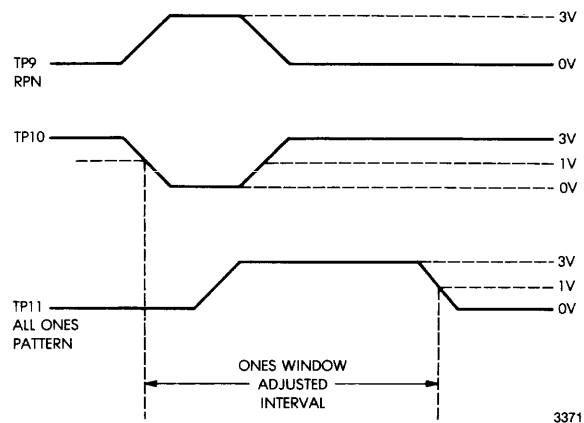

Figure 6-19. Read Pulse Narrow/Ones Window
- (1) Establish test configuration described in Paragraph 6.12.1.1.
- (2) Observe RPN waveform on oscilloscope Channel 1 (TP9) as shown in Figure 6-19.
- (3) Adjust oscilloscope so that the leading edge of the RPN coincides with the center graticule line.
- (4) Press the X10 MAG switch on oscilloscope to display 10 nsec per division.
- (5) Measure RPN pulsewidth at the 1v level on oscilloscope centerline.
- (1) Observe 'ones' window on oscilloscope Channel 2 (TP11) as shown in Figure 6-19.
- (2) Measure the time between the leading edge of RPN TP10 to trailing edge of 'ones' window TP11.
- (3) If the pulsewidth is not within adjusted tolerance listed in Table 6-5, adjust R83 for the specified value.
- (1) Write all-ones pattern via the disk exerciser.
- (2) Observe 'ones' window on oscilloscope Channel 2 (TP11) as shown in Figure 6-19.
- (3) Measure the time between the leading edge of RPN TP10 to trailing edge of 'ones' window (TP11).
- (4) If the pulsewidth is not within adjustment tolerance listed in Table 6-5, adjust R79 for the specified value.